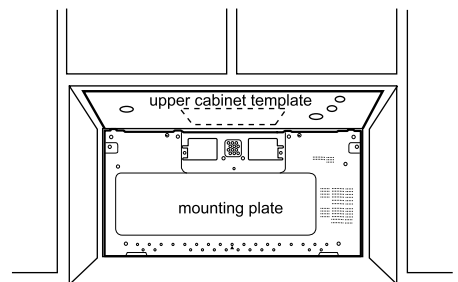

Figure 23
4. Center mounting plate in operating by lining up the plumb line on wall with centerline on mounting plate. Make sure the minimum width is 30 inches and that the top of the mounting plate is located a minimum of 30 inches above the cooking surface. See Figure 23.
5. Measure the bottom of the upper cabinet frame. Trim the edges "A" "B" and "C" on the upper cabinet template so that the template will fit on the bottom of the upper cabinet. If upper cabinet has a recessed frame, trim template so that it fits inside the recessed area. Align the centerline of the upper cabinet template with the centerline of the mounting plate; then securely tape or tack the upper cabinet template in place. See Figure 23